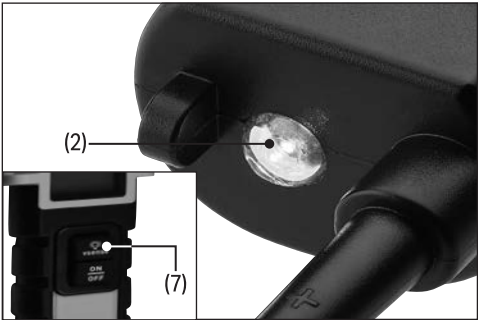

Fig. 9
- 3. Press the button (7) again to turn off the tester.
7.5 Illumination (Fig. 9)